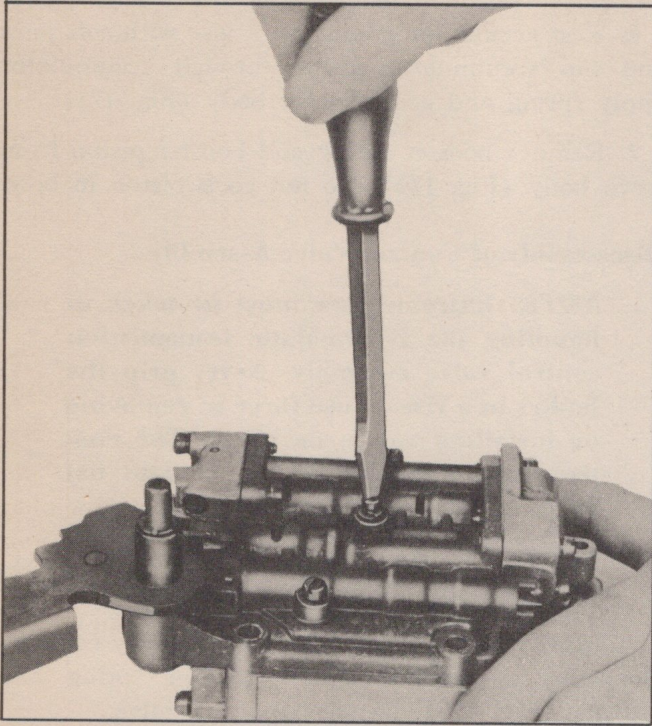

Fig. 175—Removing Outer Valve Body Screws
3. Remove three screws holding inner and outer valve bodies together (Fig. 175).